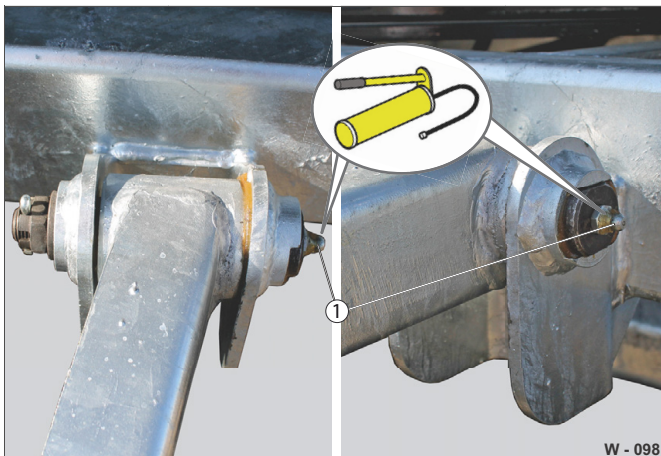

Fig. 56 Drawbar lubrication point
- Lubricate the mounting bolts of the drawbar at the grease nipple (Fig. 56 /1) using a grease gun.